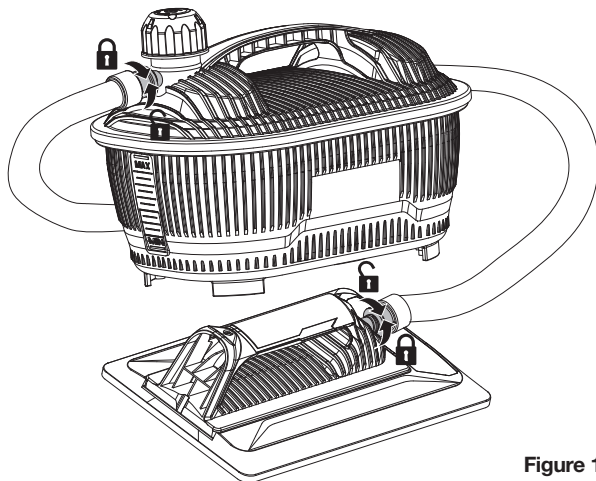

Figure 1
1. ATTACHING OR DETACHING THE STEAM HOSE (SEE FIG. 1)